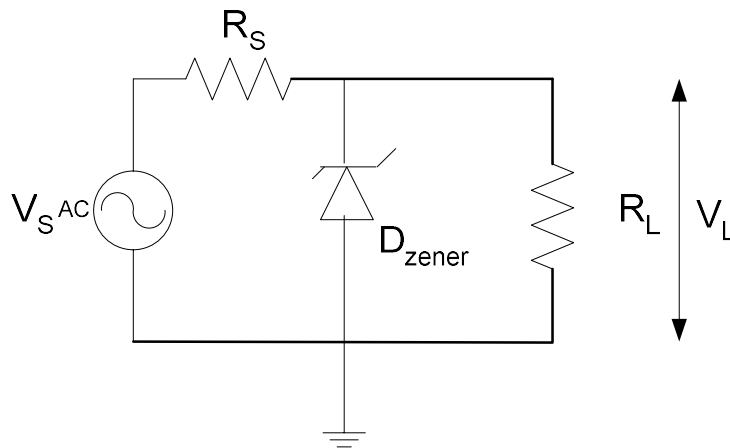

Fig. 3.12 Zener diode voltage regulator
1. Construct the circuit as shown in Fig. 3.12. Adjust  $V_S$  to 5 Vpp sinewave at 1 kHz.